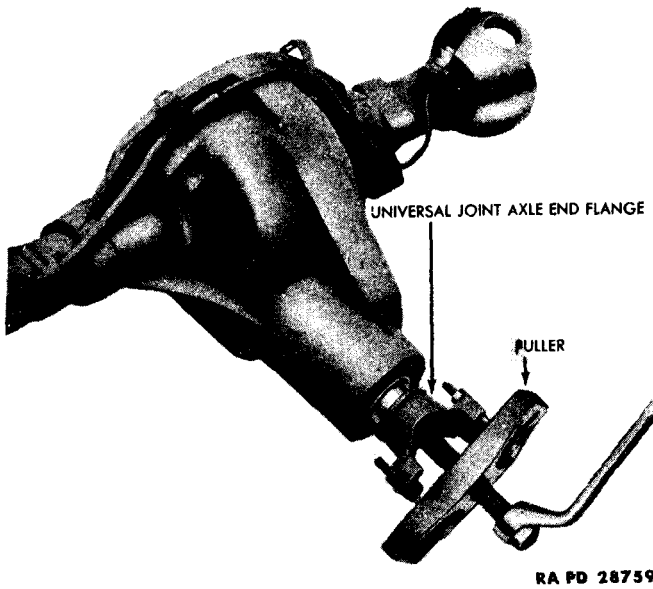

Figure 50 — Removing Universal Joint Axle End Flange With Puller 41-P-2905-60
g. Remove Drive Pinion. Remove the nut and flat washer that secure the universal joint flange to the drive pinion. Install the puller 41-P-2905-60 to the universal joint flange (fig. 50) and remove the flange. Using a brass drift and hammer, drive the drive pinion out of the axle housing (fig. 51). Remove the shims and spacer from the drive pinion, noting the thickness of the shims removed from the pinion.